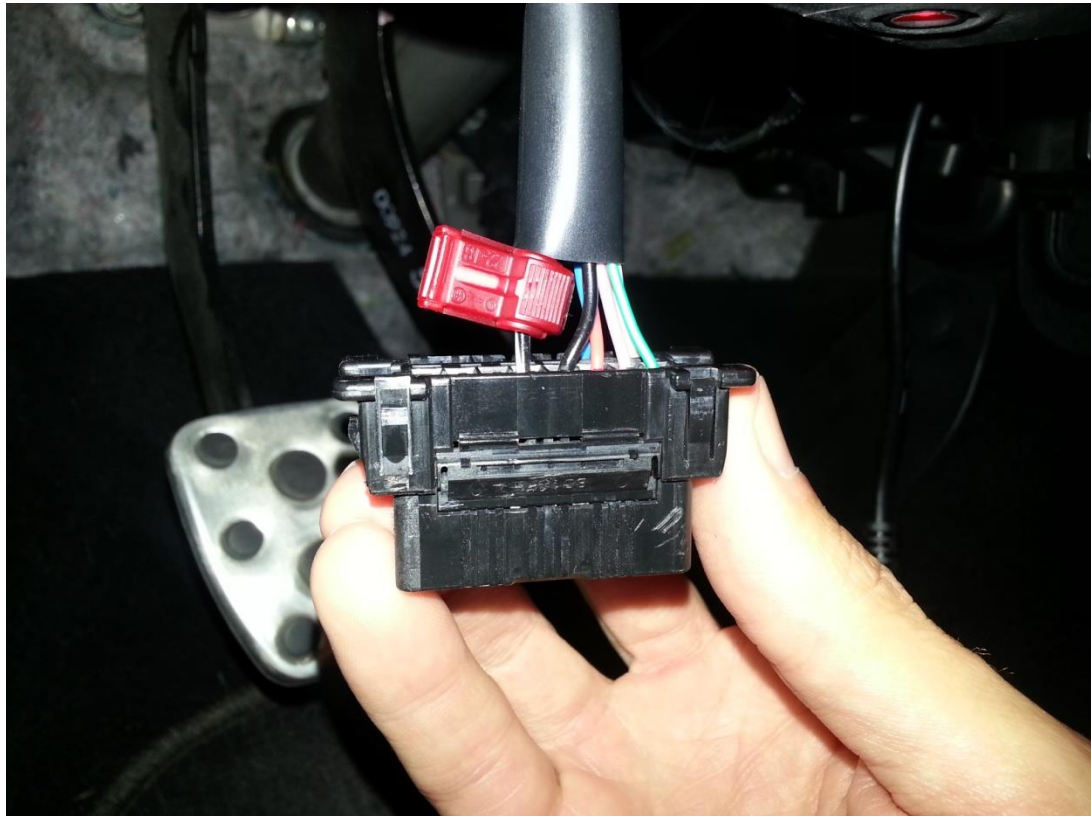

Figure 3 (OBDII ground connection)
3. Attach supplied wiretap to the **black/white** wire on the OBDII connector (**Figure 3**).